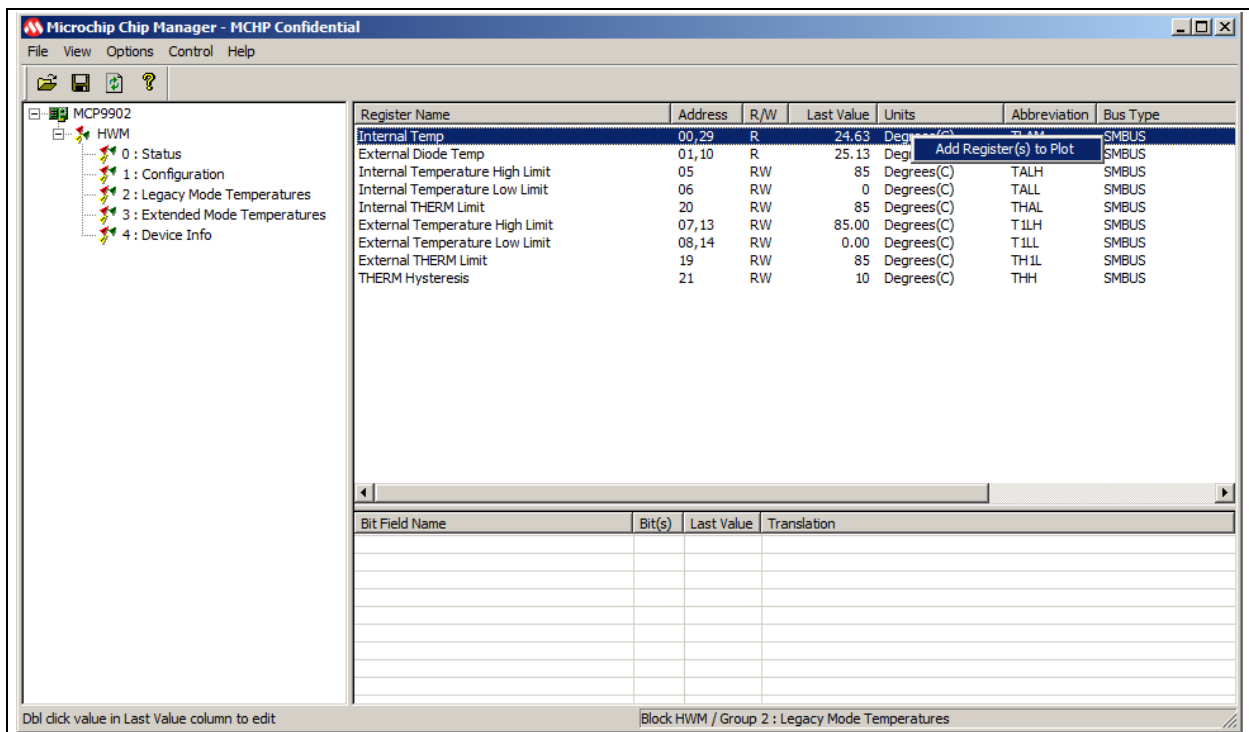

FIGURE 4-1: Adding Registers to Plot.
1. To plot a register, right-click the desired register name or value. Select Add Register(s) to Plot from the context menu (see Figure 4-1), to add the register or value to the plot list.